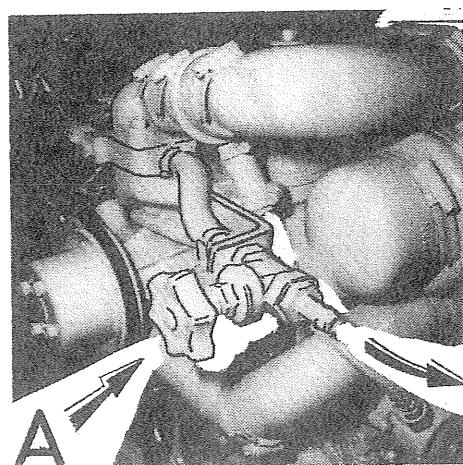

Fig. 41
Fig. 41 viser utløpskranen (A) montert i forkant av topplokket med slangestump fra dynamoholderen.
Outlet cock (fig. 41, A) is situated at fore end of cylinder head. A 1/2'' connecting hose leads the engine coolant to the water heater. Coolant is returned to engine via a hose to inlet cock, situated below heat exchanger (adjacent to starter).